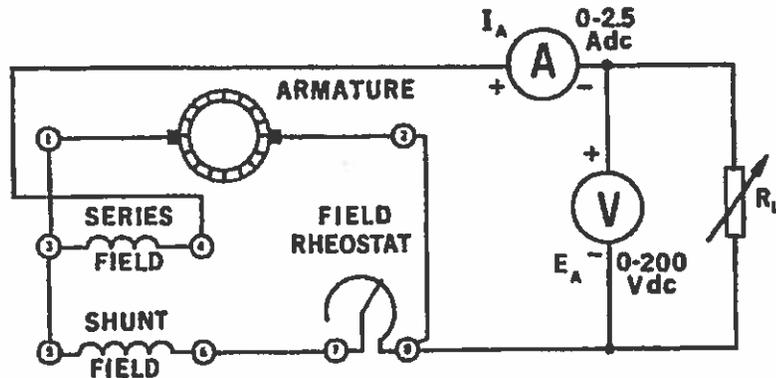

Figure 29-2.
3. a. Using your DC Motor/Generator, DC Voltmeter/Ammeter and Resistive Load, connect the circuit shown in Figure 29-2.